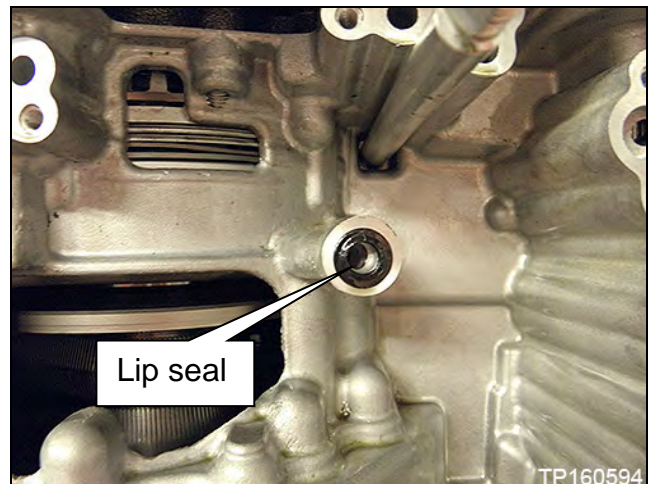

Figure 2J
1. Install a new lip seal (Figure 2J).